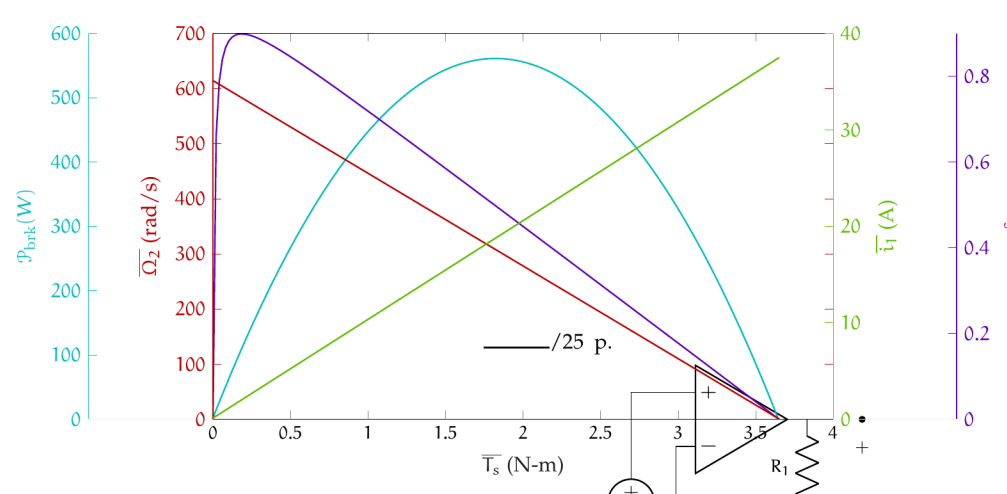

Figure exe.7: fit motor curve Fig. curves.2 for Exercise emech.
Consider the DC motor curves of Fig. curves.2, reproduced in Fig. exe.7.
- You are to use this motor to drive a load at a constant angular speed of $100 \text{ rad}/\text{s}$ with at least $1 \text{ N}\cdot\text{m}$ of torque. You wisely choose to use a gear reduction between the motor and load. What should the gear ratio be to meet the above requirements and optimize efficiency? Justify your answer in terms of the motor curves of Fig. exe.7.